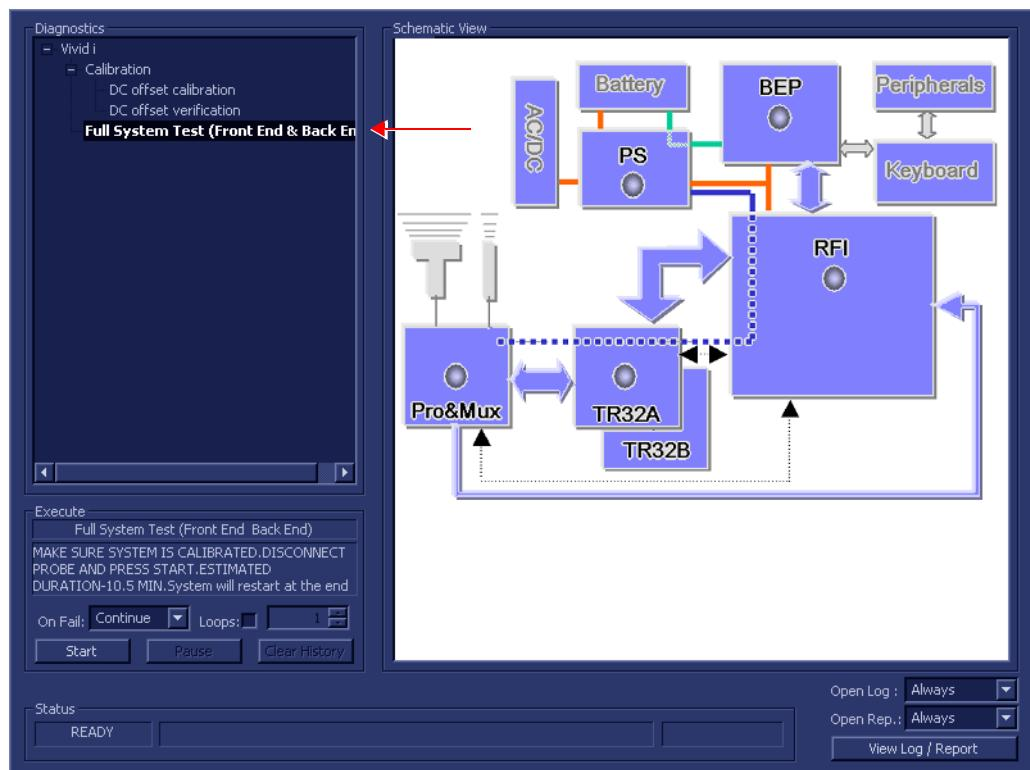

Figure 7-4 Full System (FE and BEP) Test
- In the *Diagnostic Test* window, trackball to **Full System Test (FE and BEP)** in the list of tests available for selection from the Diagnostic Test Tree (see Figure 7-4 below) and press **Set**. The Full System Test (FE and BEP) name is displayed under **Execute**, and all system components are highlighted blue in the Schematic View, as shown below: